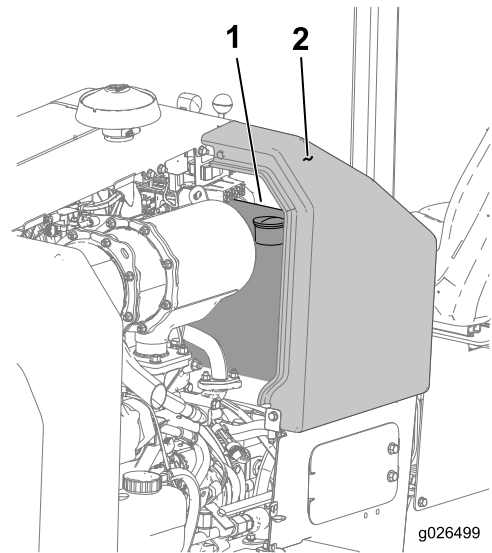

Figure 42
2. Remove the upper left panel of the console (Figure 42).